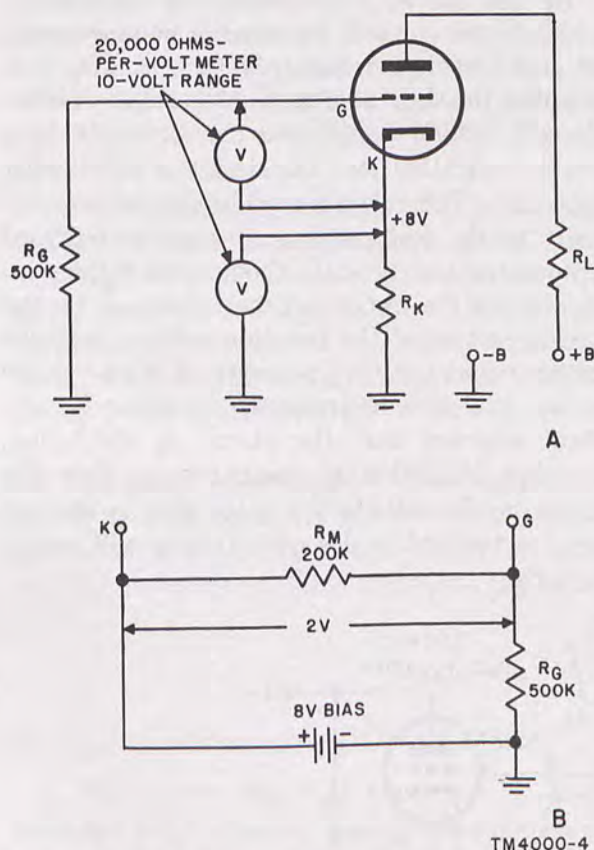

Figure 18. Measuring bias voltage in an audio amplifier stage.
a. Figure 18 shows a practical example of how circuit loading can give a voltage reading that is far removed from the true value. The socket voltages of this audio amplifier stage are measured with a voltmeter that has a sensitivity of 20,000 ohms per volt. This sensitivity usually is adequate for most measurements. In A, figure 18, the cathode voltage is developed across R_K , a relatively low resistance. If the voltmeter is set to the 10-volt range, the total meter resistance, R_M , is 200,000 ohms. With this value of
c. The circuit in B, figure 18, is a simplified version of that at A. The battery represents the 8-volt drop across R_K . This voltage is applied in series with the 500K resistor. A voltage divider is formed by R_G and the meter resistance, R_M . The result is that instead of 8 volts the meter indicates only 2 volts. Most of the voltage drop is across R_G . If a meter with a lower sensitivity were used, the voltage reading